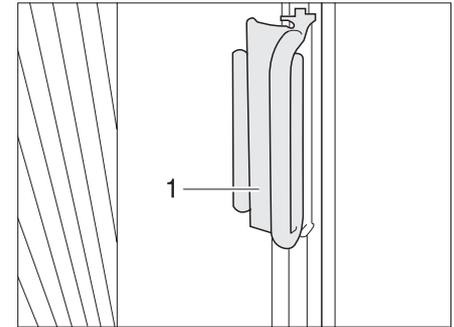

Fig. 4 Roman shade, locking mechanism
- Grip the Roman shades at both sides of the windscreen at the handle (Fig. 4,1) and pull carefully towards the middle of the windscreen until the magnetic catch keeps the Roman shade closed.
- Push the handle (Fig. 4,1) onto the attachment. The Roman shade is secured.